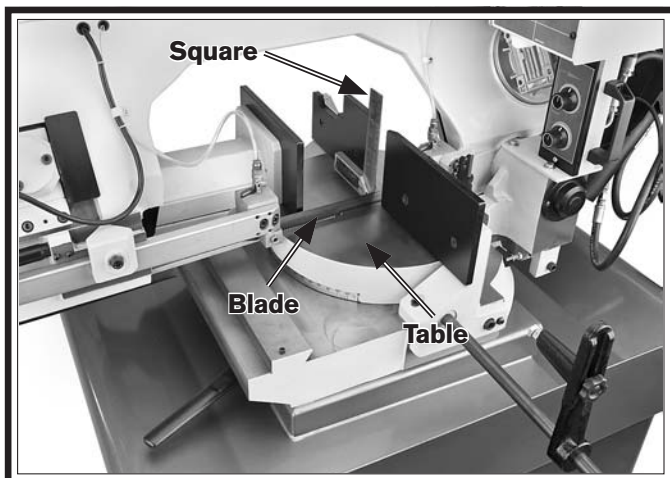

Figure 50. Squaring the blade.
3. Place a square on the table bed and against the edge of the blade, as shown in **Figure 50**, then check different points along the length of the table between the blade guides.